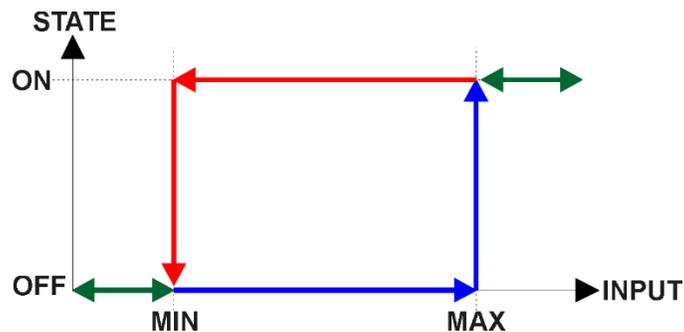

Figure 5 – Analog Input Reads as Digital
There is another type of ‘digital’ input that can be selected when 6112h is set to 20 = Analog On/Off. However, in this case, the input is still configured as an analog input, and therefore the objects from the Analog Input (AI) block are applied instead of those discussed above. Here, objects 2020h, 2030h and 6030h are ignored, and 6000h is written as per the logic shown in Figure 5. In this case, the MIN parameter is set by object 7120h **AI Scaling 1 FV**, and the MAX is set by 7122h **AI Scaling 2 FV**. For all other operating modes, object 6000h will always be zero.